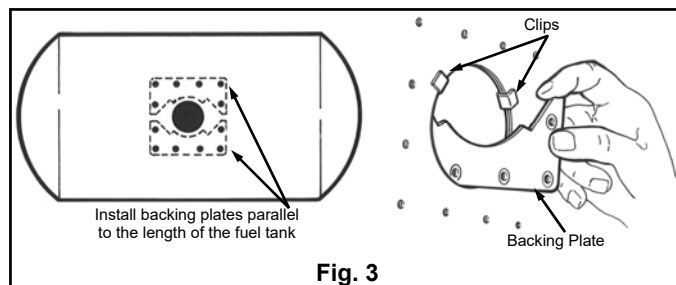

Fig. 3
10. Insert the backing plates (as shown in Fig. 3) inside the fuel tank, so they are parallel with the length of the tank. You can hold the backing plates in place with a needle nose pliers or vise grip.